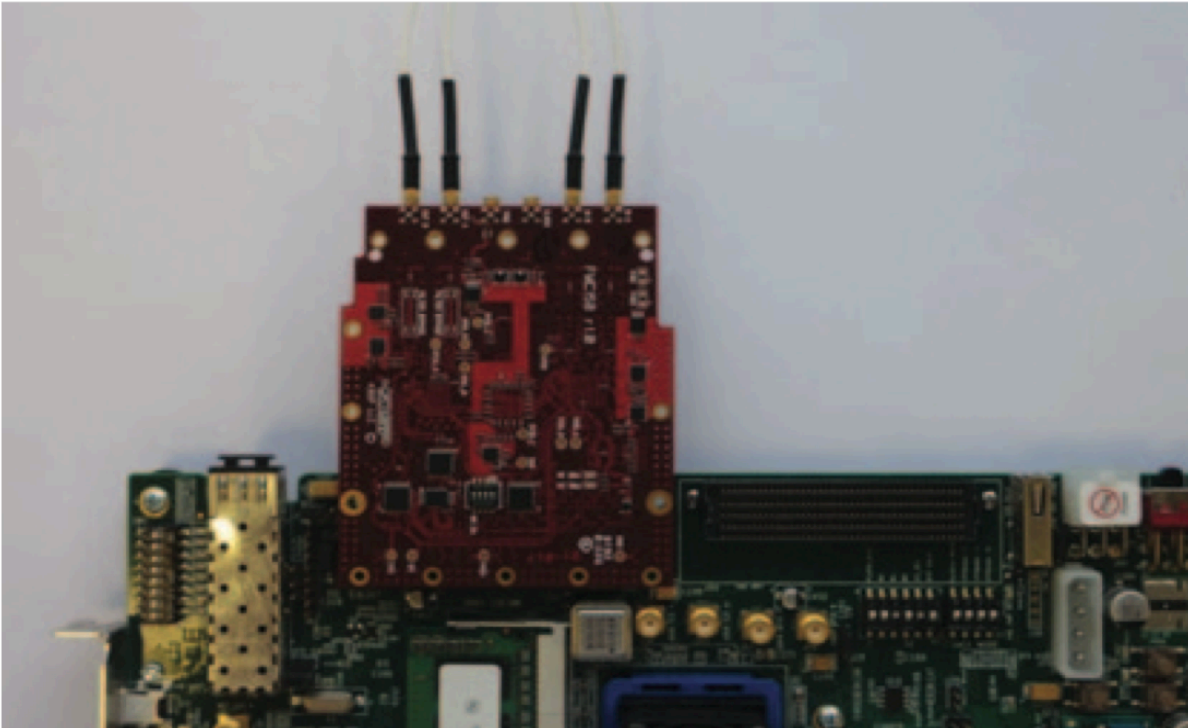

Figure 2 – Inserting the FMC-150 board into the ML605 board. Apply slight pressure to ensure proper connection.
2. Connect ADC input B and DAC outputs C and D to MMCX to BNC cables as shown below. Inserting these cables requires slight force (*you should heard and feel the connection “click” into place. See Figure 2).*
Figure 5 – 1) Connection to the oscilloscope with attached BNC splitter on the output of the function generator. 2) Connection of the function generator to the input of the ADC on port A of the FMC-150 board (*connection of the MMCX to the FMC-150 board not shown here, please see Figure 2*). Refer to the documentation provided with the oscilloscope and function generator as needed.